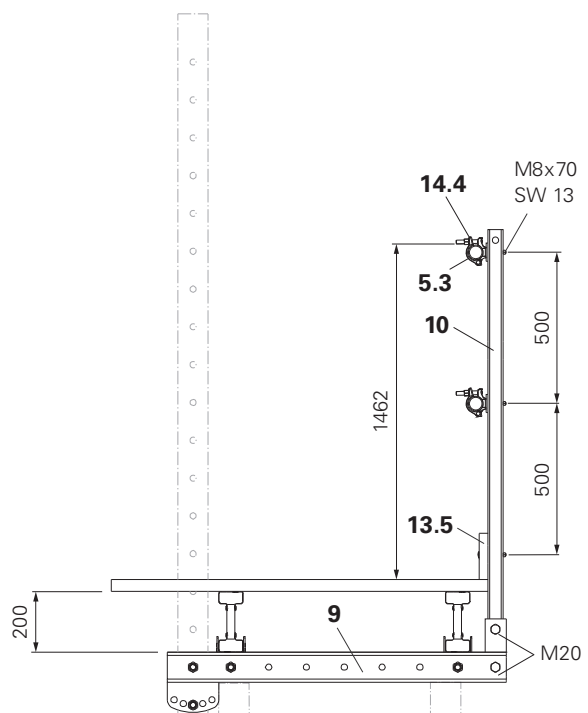

Fig. A1.21
3. Fix Guardrail Connector CB (14.4) to the Guardrail Posts (10) using F.H. Bolts M8 x 70 MU, SW 13.
- (Fig. A1.21)